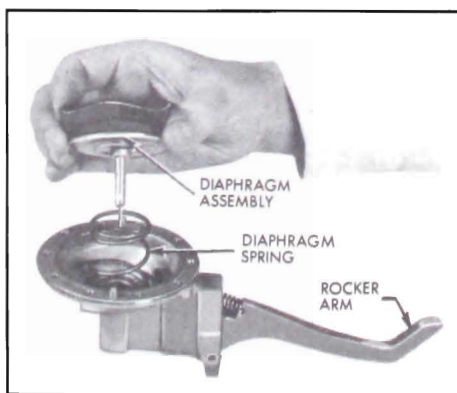

Figure 3-20—Diaphragm Assembly
1. If rocker arm and link were removed (subpar. b above), place new rocker arm spring and link in position in pump body with rocker arm and use a slightly undersize rod through pin hole to line them up. See Figure 3-20. Drive new rocker arm pin through body, forcing lineup rod ahead of it. Install new steel washer over small end of rocker arm pin, support head of pin on a suitable steel block, and peen small end of